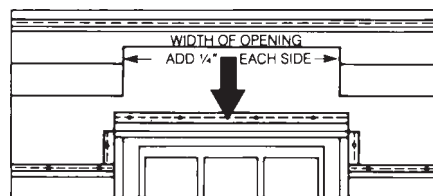

FIG. 16 Installation Over Window or Door
9.3.7 Over a window or door, measure for the cuts. Mark the bottom portion of the panel and cut out the unwanted section. Install the panel. (See Fig. 16.)